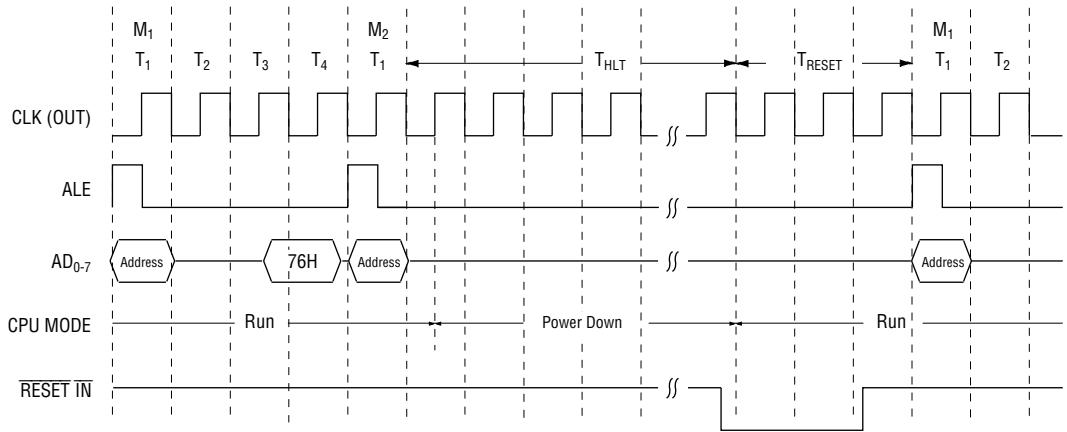

Figure 6 Started by HALT and Released by  $\overline{\text{RESET IN}}$
**(1) Start by means of HALT command (See Figures 6 and 7.)**